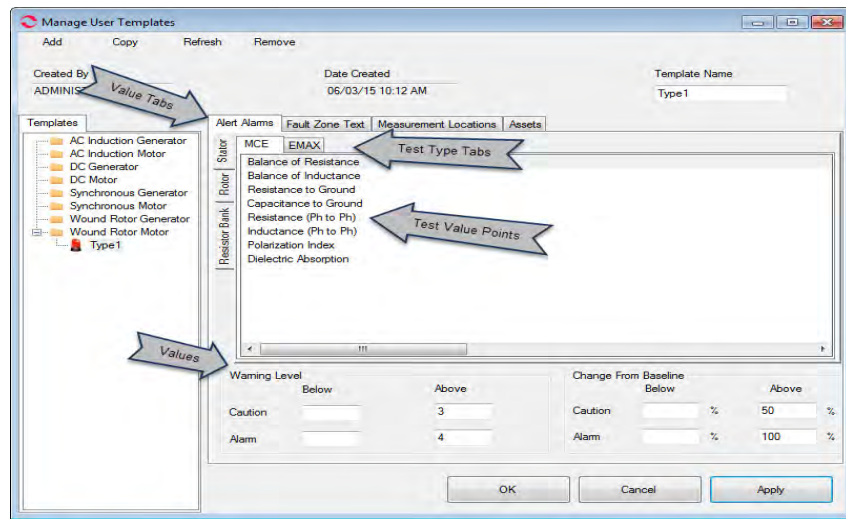

Figure 3-12: Manage User Templates Window
2. Select the Alert Alarms tab and either the MCE or EMAX tab. The tab you select drives the alert alarm values displayed in the window shown in Figure 3-12.